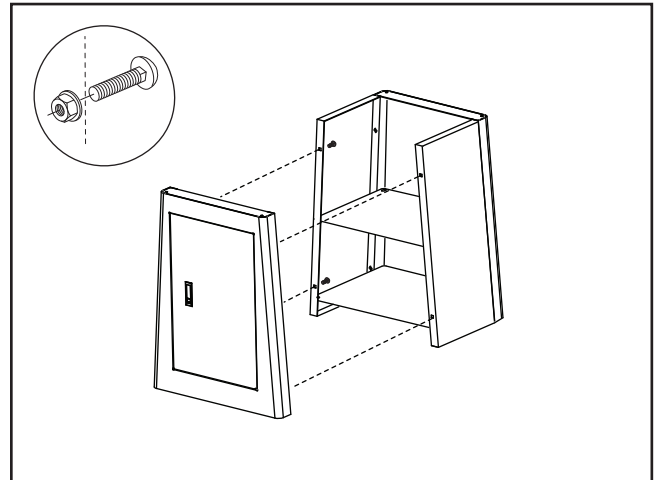

Figure 8. Door w/panel installation.
3. Fasten the panel and door assembly to the left and right panels, as shown in **Figure 8**, using (4) $\frac{5}{16}$ "-18 x $\frac{3}{4}$ " carriage bolts and (4) $\frac{5}{16}$ "-18 flange nuts.